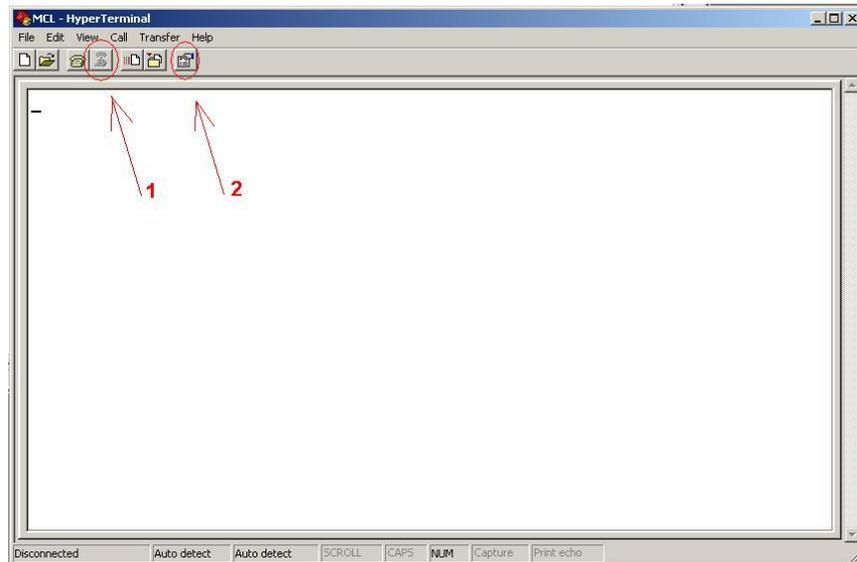

Figure 6.2-5
1. Press *Disconnect* button as shown on figure 6.2-5 (arrow 1);
2. Press *Properties* button as shown on figure 6.2-5 (arrow 2);